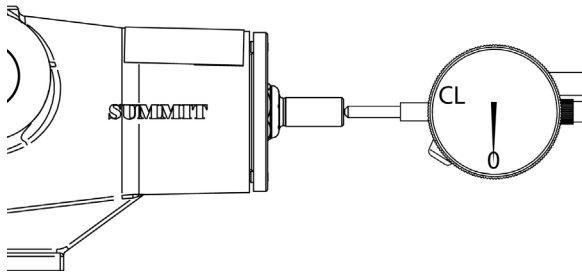

Figure 12-4: "Zero" Setting
4. Secure the dial indicator to either the pump’s base plate or Casing (07, 08, 10). Position the probe on the end of the shaft as shown in Figure 12-4.
5. Refer to Table 12-2 on page 29 to determine the standard end clearances (CL) for corresponding size and material.
7. Turn the Bearing Housing (07) counter-clockwise, as viewed from the drive end, until the dial indicator reads the desired end clearance (CL).